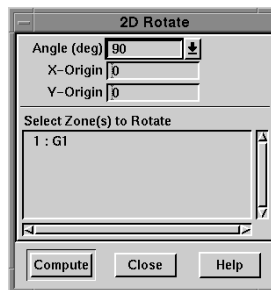

Figure 24-6. The 2D Rotate dialog.
1. From the Data menu, choose Alter, then choose 2D Rotate. The 2D Rotate dialog appears, as shown in Figure 24-6.